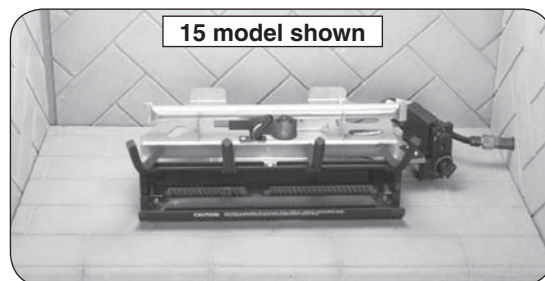

Fig. 16-2 Center burner in fireplace
3. Place the burner system in the fireplace. Center the burner in the fireplace. See Fig. 16-2.